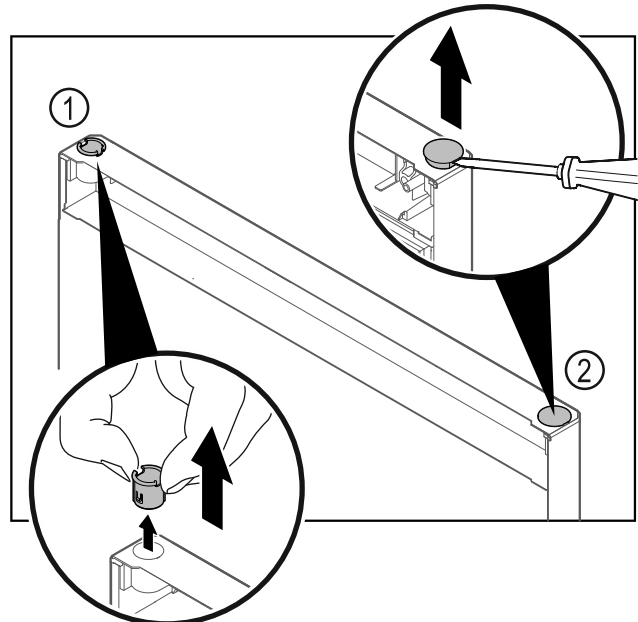

Fig. 30
- Pull out the hinge bushing Fig. 30 (1) with your fingers.
- Carefully lift the cover plug Fig. 30 (2) with a slotted screwdriver and pull it out.